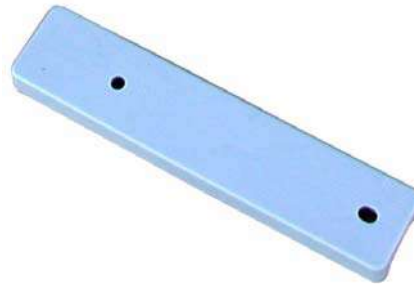

Figure 8: Radio assembly mounting adapter
**Radio mounting adapter** The mounting adapter shown in Figure 8 is used for both radio types to mount the radio assembly on the feed support arm.